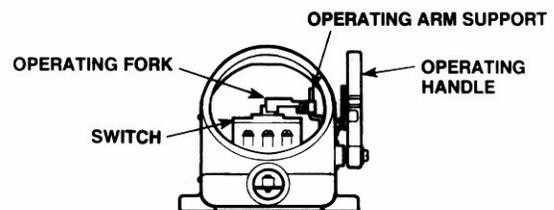

Figure 2
A. To remove circuit breaker and mounting plate from enclosure; loosen the #10-32 x 7/8" screw on the operating fork. Slide the fork upward on the operating arm support and remove. Retain operating fork assembly for later use. (See figure 2).
A. Loosen the #10-32 x 7/8" screw on the operating fork and slide the fork upward on the operating arm support and tighten screw. DO NOT remove the fork arm (See Figure 2).
B. Remove mounting plate from enclosure by loosening four (4) #10-32 x 3/8" screws that secure the mounting plate to the enclosure. Slide mounting plate sideways and lift out.